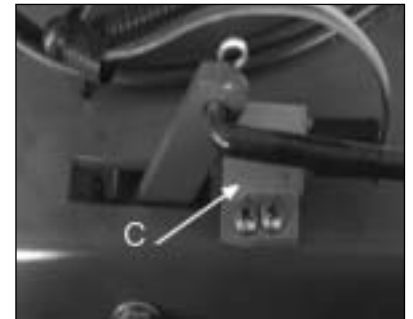

Figure 18
Safety System Adjustment (Refer to figure 18 & 19)
4. Check that safety switch "C" is firmly against blade bell crank, if not, repeat steps 2 and 3 until safety switch "C" is firmly against blade bell crank (see figure 18).